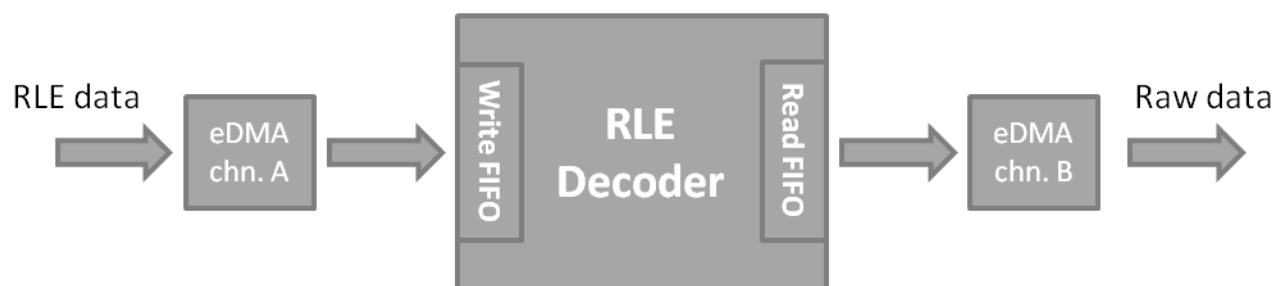

Figure 3. RLE application block
The RLE data in application diagram shown in Figure 3 can be fetched from any of the available memories and the decoded data can be put into SRAM, GRAM, or DRAM memory.
- Configure the read eDMA channel, Channel A in Figure 3
- Configure the write eDMA channel, Channel B in Figure 3